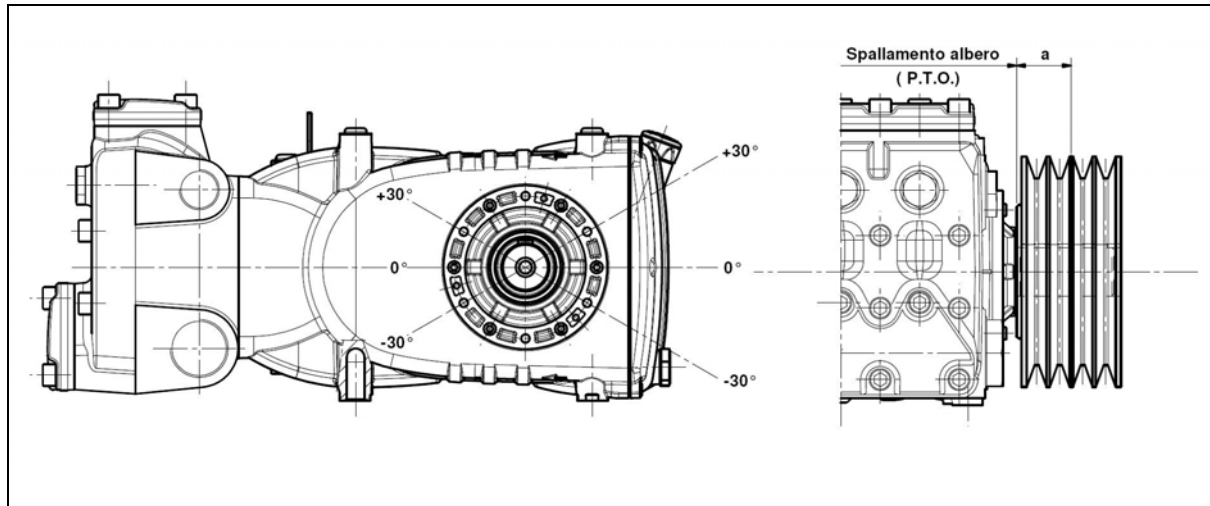

fig. 10
The transmission is considered adequate if this load is applied at a maximum distance of **a=40 mm** from the shaft shoulder (P.T.O) as indicated in fig. 10.
- b) Use high efficiency belts – for example **XPB** instead of **SPB**; this will allow to use a lower number of belts to transmit the same power, and consequently a minor distance of the resultant from the shaft shoulder (P.T.O.) “a” in fig. 10